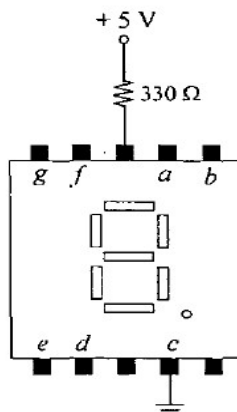

Figure 2.2 (b)
- Choose one 7-segment display and do the connection as shown in Figure 2.2(b).